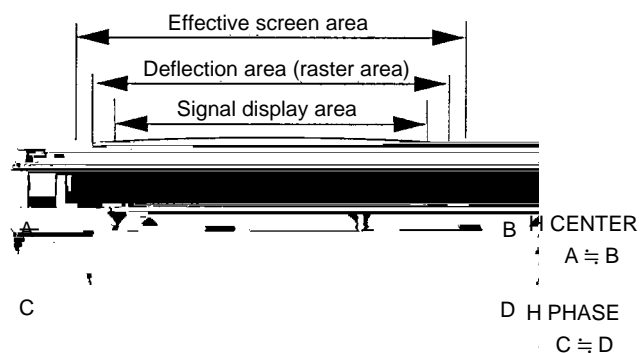

Fig. 1-6
7. Adjust the H CENTER data so that the raster is position just in the center of the screen (so that $A \approx B$). (Fig. 1-6)